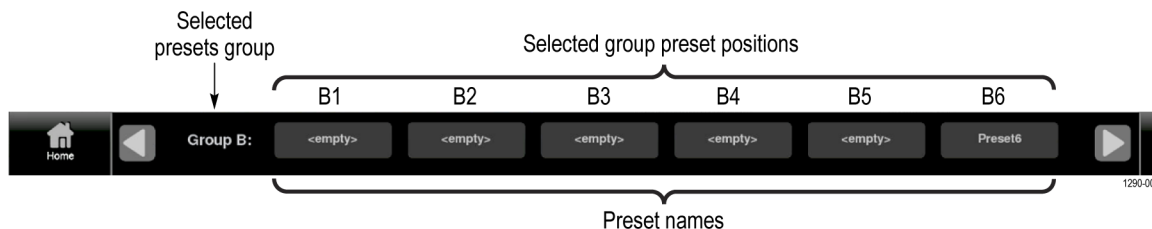

Figure 51: Preset selection controls (Group B shown)
- e. When you select OK, the preset name changes from **<empty>** to **Preset<number>**, where the number is the preset position within the preset group. (See Figure 51.)